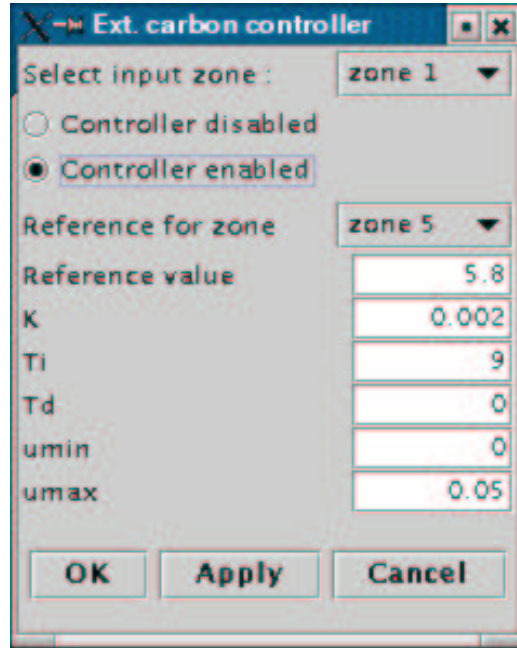

Figure 5: The Ext. carbon controller dialog
27. The carbon controller is a PID controller that controls the  $NO_3^-$  concentration in an arbitrary anoxic zone by changing the flow rate of external carbon. By selecting *Ext. carbon controller* from the *Controllers* menu the dialog shown in Figure 5 is displayed. In this dialog it is possible to set in which zone the carbon should be added, in which zone the  $NO_3^-$  concentration should be controlled, the reference  $NO_3^-$  value and the PID parameters. It is also possible to enable/disable the controller. In the latter case the carbon flow rate can be set manually in the *Carbon* dialog.